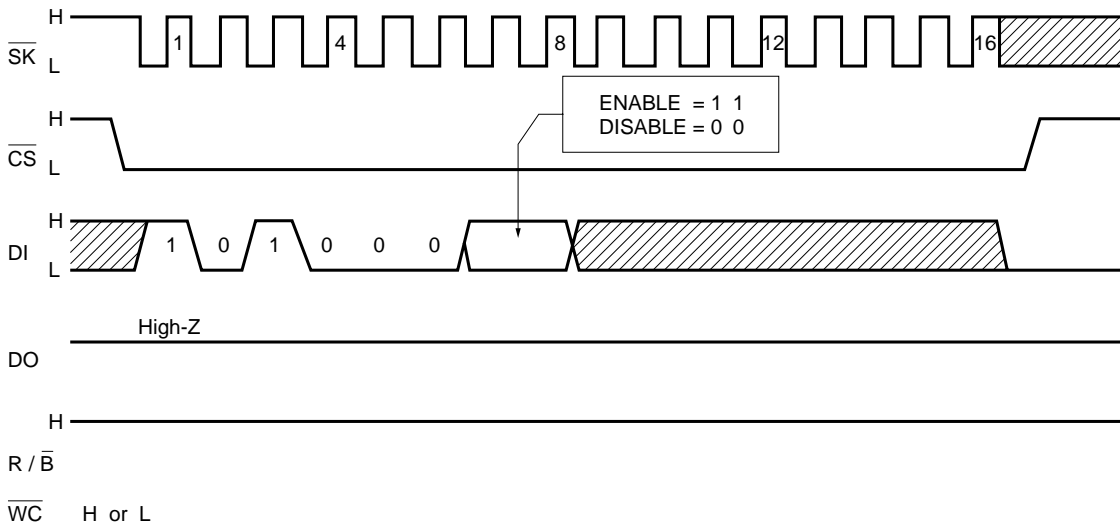

Fig.1
1) After the fall of the 16th clock pulse, 16-bit data is output from the DO pin in synchronization with the falling edge of the \overline{SK} signal. (DO output changes at a time lag of t_{PD0} , t_{PD1} because of internal circuit delay following the falling edge of the \overline{SK} signal. During the t_{PD0} and t_{PD1} timing, the t_{PD} time should be assured before data is read, to avoid the previous data being lost. See the synchronized data input / output timing chart in Fig. 1.)